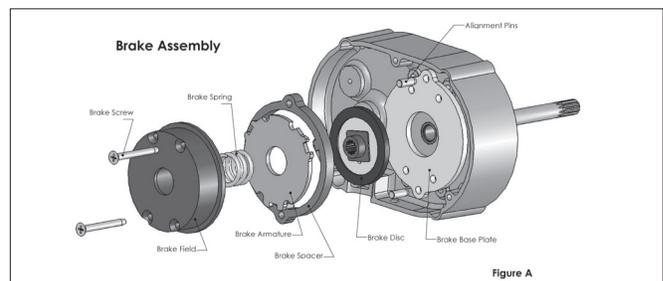

Figure 13 - Brake Assembly
The brake is non-adjustable with a nominal .004 inch (0.102 mm) air gap and the brake disc must be replaced when the air gap reaches .012 inch (0.305 mm). The brake spacer should be no more than .012 inch (0.305 mm) thicker than the combined thickness of the brake disc and armature plate. Refer to Figure 13.
1. Refer to Figure 13 and disassemble the brake. Depress and hold the field assembly while removing the four brake screws. The field assembly is under spring pressure and will spring-out if not held. Examine the base plate, brake disc) and armature for excessive wear, scoring or warpage. Make sure the brake disc is not glazed, the coil firmly fixed in the field) and the brake spring is not damaged. Worn, scored, warped, glazed or damaged parts should be replaced before proceeding.
2. Refer to Figure 13 and assemble the brake. Depress and hold the field assembly while installing the four brake screws through the brake parts and mount the brake on the gear housing. Tighten the four brake screws to 25 in.lb.